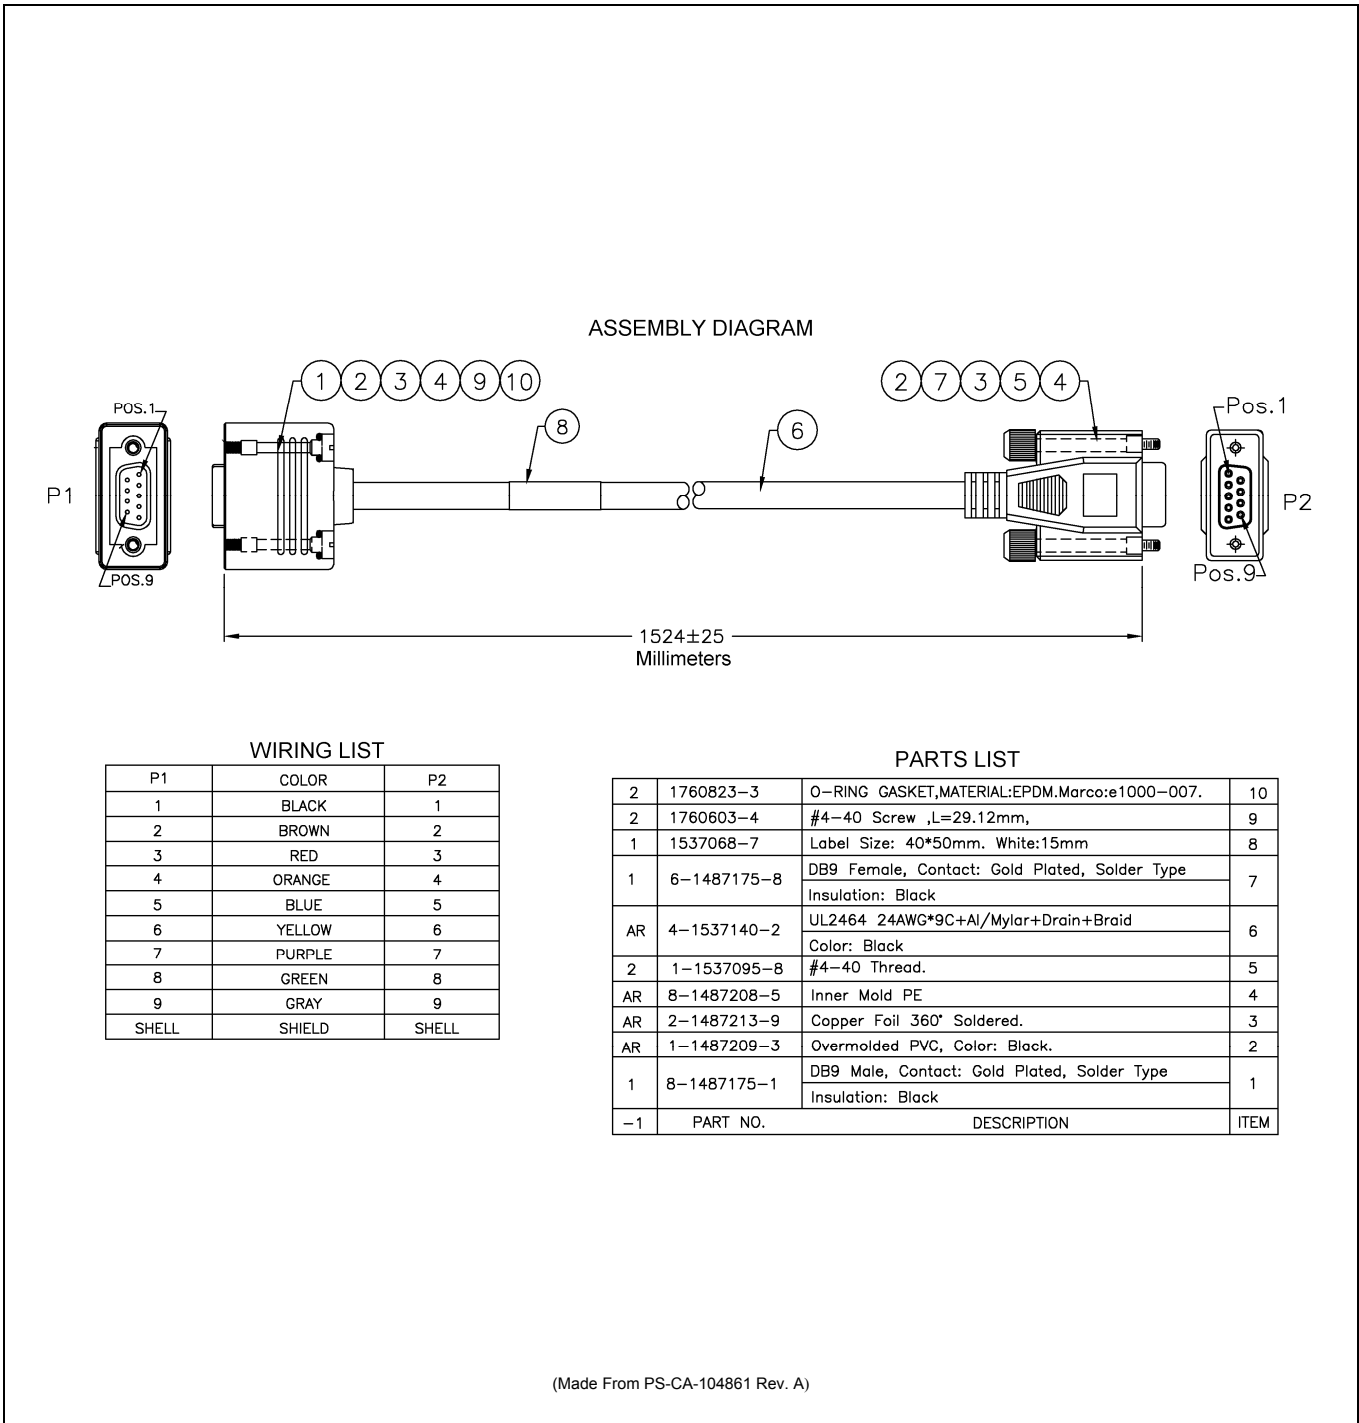

Figure 13-6: Programming Cable CA-104861
Serial Programming Cable CA-104861 (5 feet) can be used to program and configure the CH-721 control head via a Personal Computer (PC). This cable has a female DB-9 connector on one end for connection to the PC's serial port and a male DB-9 connector on the other end for connection to the serial port on the rear of the head. The cable's assembly and wiring diagrams are shown in Figure 13-6 below.